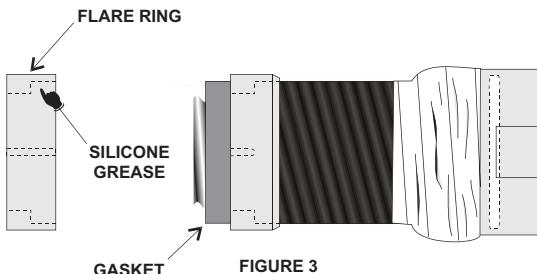

FIGURE 3
grease to the outside surface of the gasket (refer to Figure 3). Clean any silicone grease from the exposed copper using solvent.
Step 5) Slip recessed side of flare ring over the gasket. Alignment pin holes in the flare ring and compression ring must be in line. The flare ring must be pushed against the compression ring as tight as possible (refer to Figures 3 & 4. Approximate opening between the flare ring and the compression ring should be as shown).